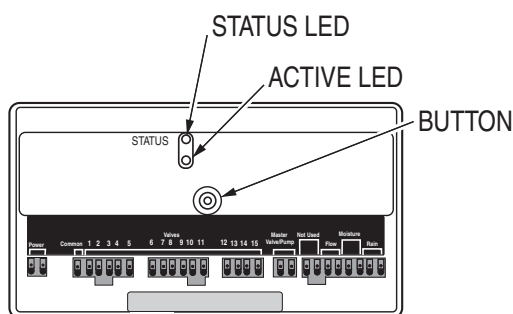

Figure 8. LED Status/Button Location
1. With your controller in Discovery or Add Mode, tap the button (See Figure8).